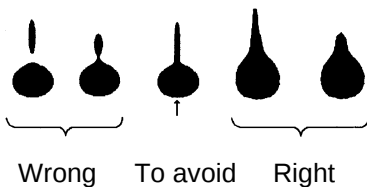

Figure 3 :
- Only the shape of the drops after the break point indicate the right adjustment (see Figure 3).